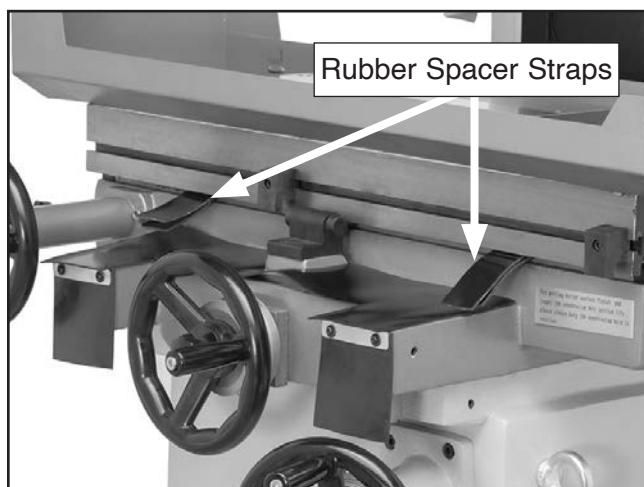

Figure 30. Rubber spacer straps.
6. Remove and store rubber spacer straps (see **Figure 30**).